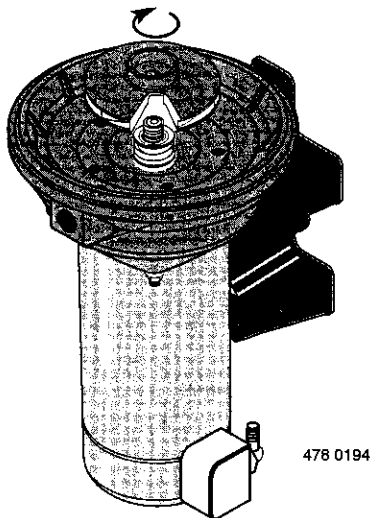

Figure 10
- I. Screw impeller on shaft (clockwise) while holding shaft with 7/16" open end wrench on shaft flats. This will automatically locate seal in place. See Figure 10.